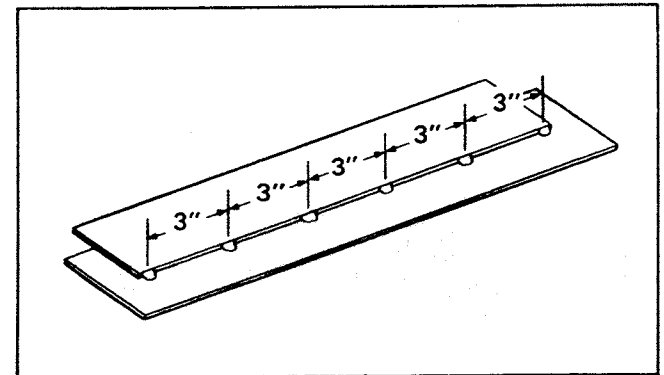

Figure 26
2. Tack between each of the first tacks. Continue doing this until the distance between each tack is 3 inches or less. See Figure 26